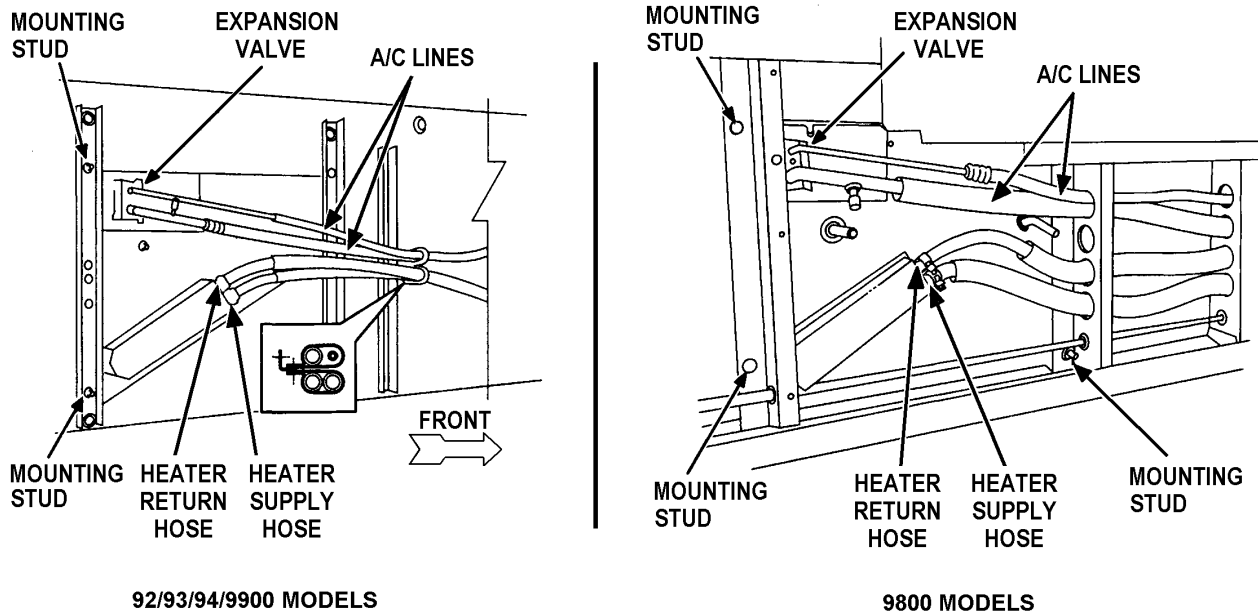

Figure 13 Components Located Under the Cab
1. Note how the heater hoses are connected to the heater core, and label the hoses for proper reconnection later. Remove the heater hoses from the heater core inlet and outlet tubes (Figure 13).
3. Remove the 10 mm nut that secures the refrigerant lines to the expansion valve and remove the refrigerant lines from the expansion valve (Figure 13). Cap or plug all hoses. Place tape over the openings in the expansion valve.
5. Remove the unit mounting stud nuts and washers (Figure 13).